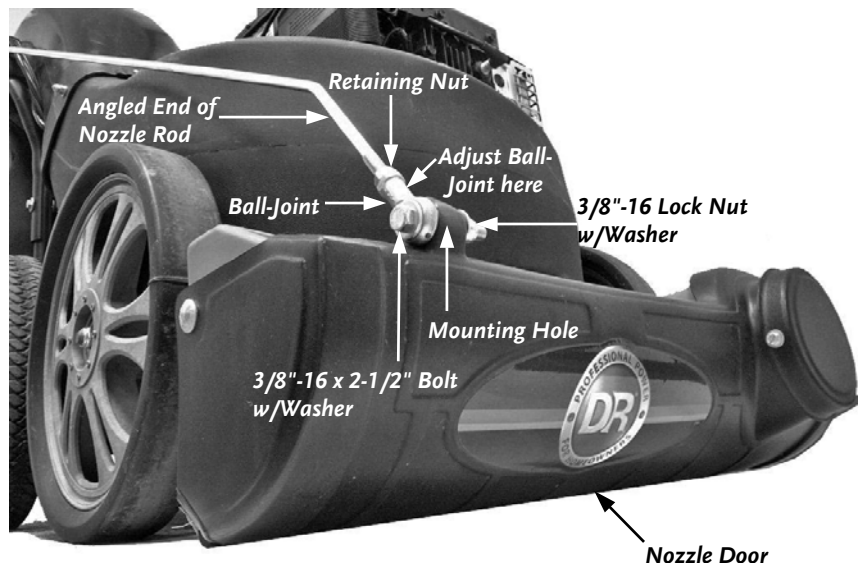

Figure 7
6. Insert a 3/8"-16 x 2-1/2" Bolt with a 3/8" Flat Washer through the Ball-Joint at the other end (angled end) of the Nozzle Door Rod (**Figure 7**).
7. Insert the Bolt from step 6 through the mounting hole in the Nozzle Door (**Figure 7**) and install a 3/8" Flat Washer followed by a 3/8"-16 Lock Nut. Do not tighten at this time.
8. Using the Nozzle Door Lever, make sure the Nozzle Door opens and closes all the way. Reference "Vacuum Nozzle Door Operation" on page 27. Make any adjustments by screwing the Ball-Joint End in or out at the Nozzle Door connection (**Figure 7**).